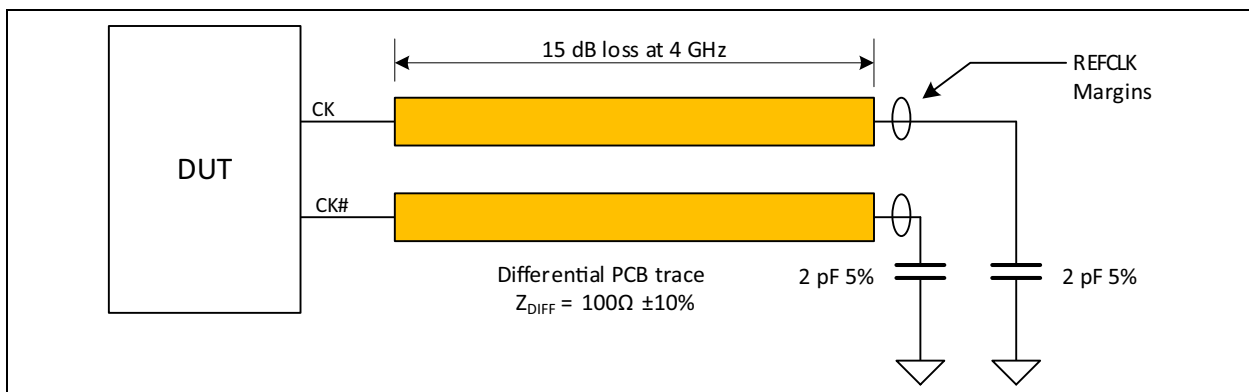

FIGURE 1-7: PCIe Test Load.
- 11: System board compliance measurements must use the test load card described in Figure 1-7. $OUTx_p$ and $OUTx_n$ are to be measured at the load capacitors C_{LOAD} . Single-ended probes must be used for measurements requiring single-ended measurements. Either single-ended probes with math or differential probe can be used for differential measurements. Test load $C_{LOAD} = 2$ pF.
Note 1: Measured into AC test load as per Figure 1-7.